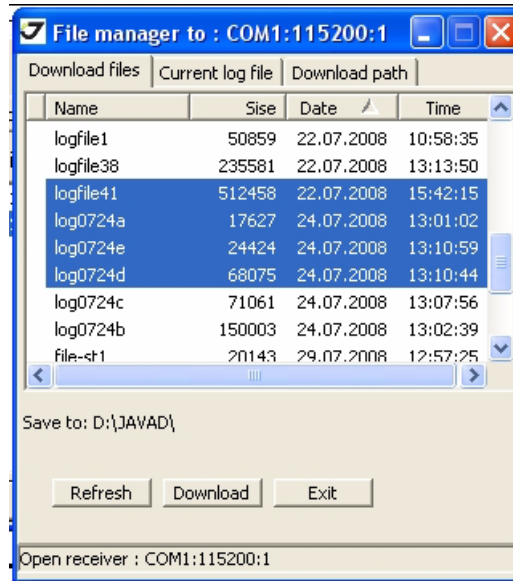

Figure 5-3. Download Files
5. Click the *Download files* tab and select the file(s) to download (Figure 5-3).